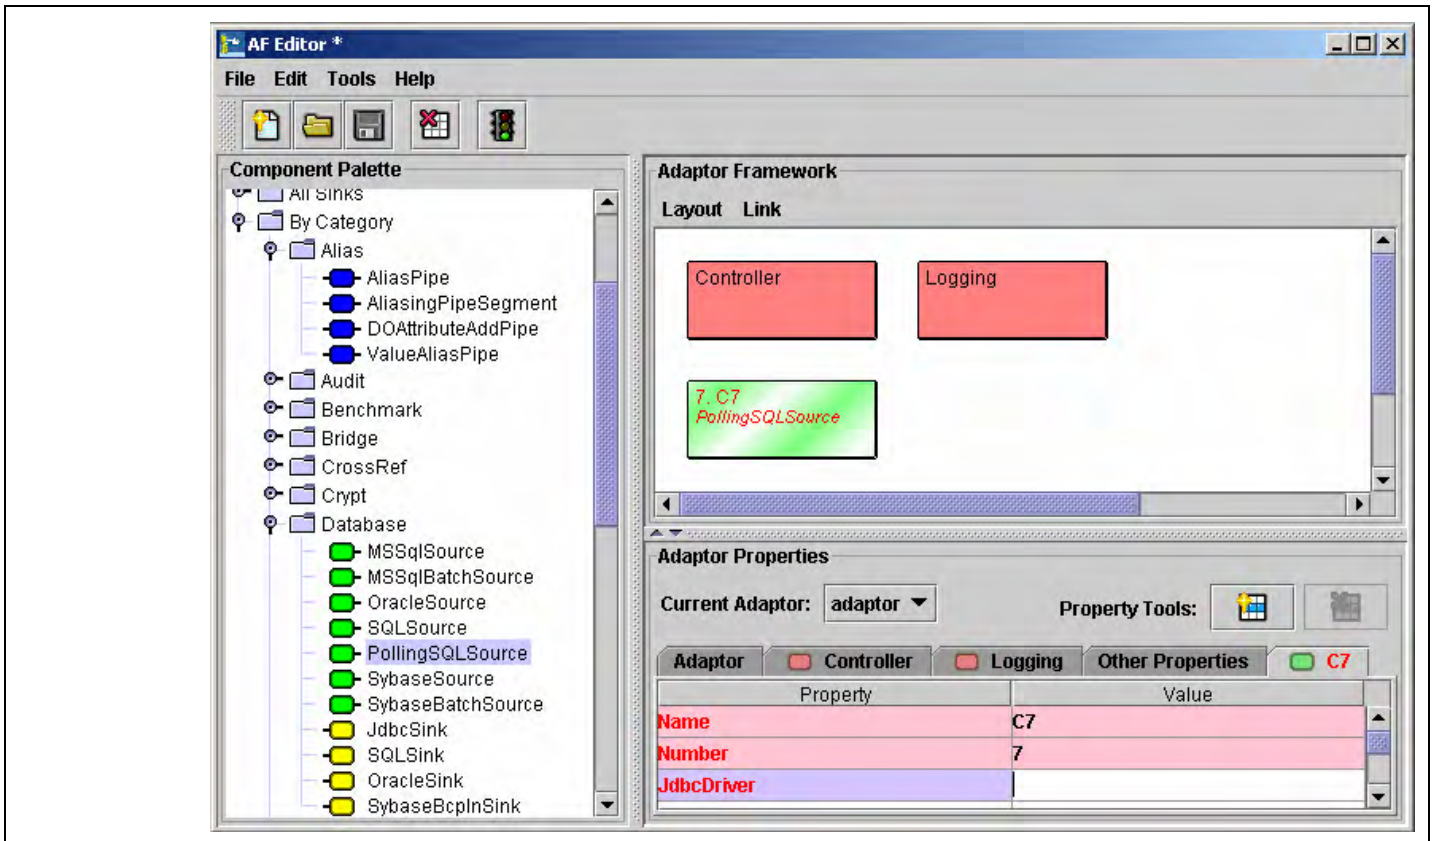

Figure 25: Adding a Component
- 1 Select a component in the panel named “Adaptor Framework”, as shown in Figure 25.